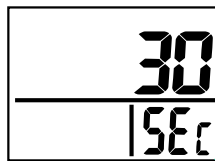

Fig. 1
1. Plug in the adaptor and the meter turns on automatically with a short beep. It performs 30 seconds countdown (*Fig. 1*) for meter warm up, then enters normal mode with current CO₂, temperature, and humidity readings displayed.